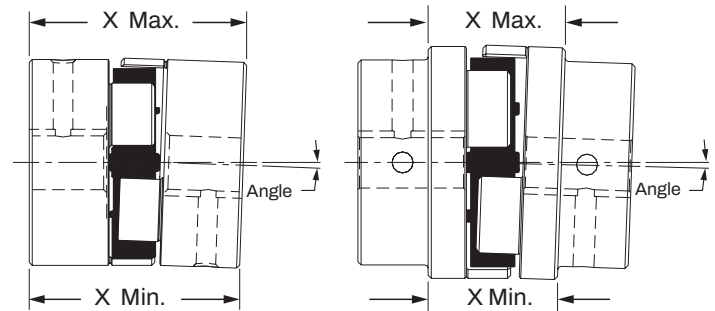

Figure 2 - Angular Misalignment
6. Check angular alignment with a calibrated micrometer or caliper. Measure "X" from one hub to the other at intervals around the coupling. See "X" in Figure 2. Determine the maximum and minimum dimensions without rotating the coupling. The difference of these two measurements must be less than the angular value in Table 2. If a correction is necessary, be sure to recheck the parallel alignment. Follow the process in Step 5.